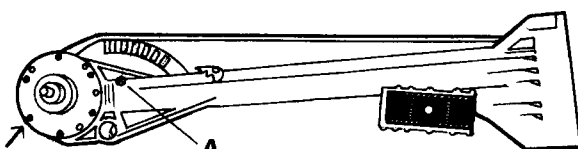

FIG 47
2. Remove 6 screws holding main bearing housing (Fig 47) shown marked. Remove bearing holding pin A by pushing out.
5. Fit pinion bearing pin (See Fig. 47 marked A).